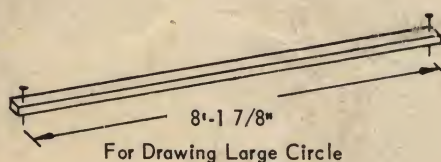

FIG. 1
2. Draw 8'-1 $\frac{7}{8}$ " Radius circle on fresh concrete. Drive nails through wood strip to make an accurate compass. See Fig. 1. This dimension must be accurate.